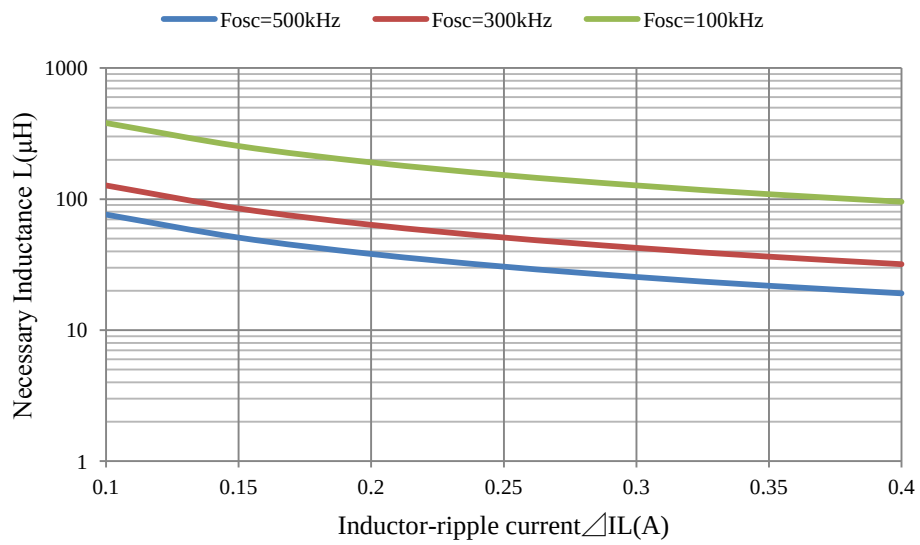

fig.16
• $P_{cont} = 44\text{mW}$ (It was referred from fig.16.)
• $P_{cont} = 22\text{mW}$ (It was referred from fig.16.)
• $P_{cont} = 33\text{mW}$ (It was referred from fig.16.)